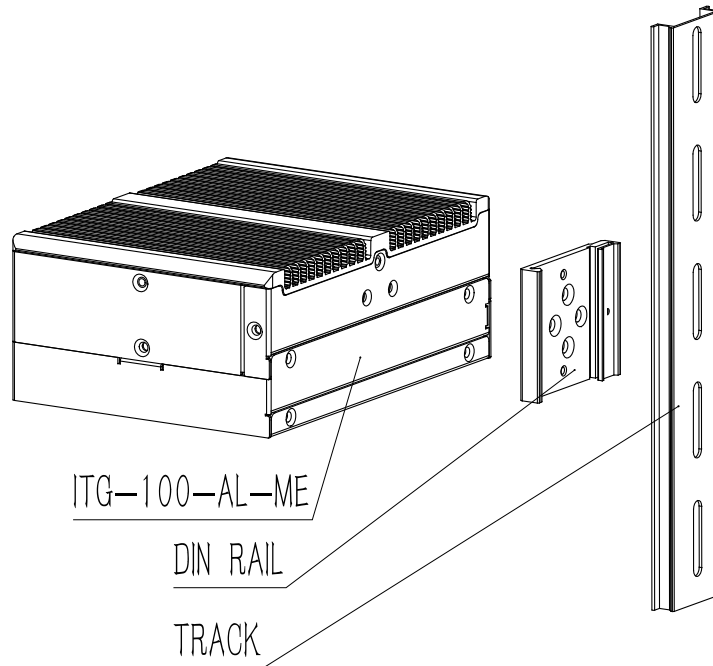

Figure 3-19: Mounting the Track to the DIN Rail
Step 2: Place the track against the back of the DIN rail mounting bracket making sure the edges of the track are between the clamps of the DIN rail mounting bracket (Figure 3-19).